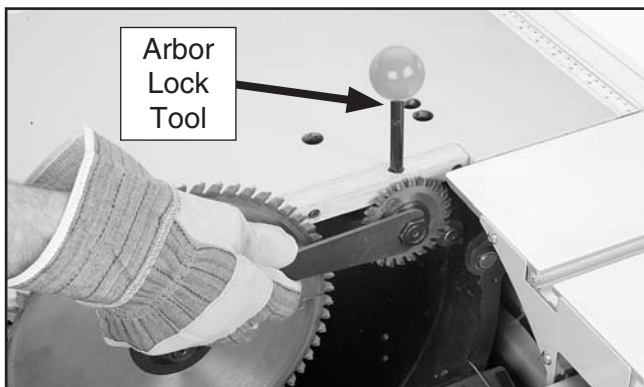

Figure 23. Installing scoring blade.
18. Insert the arbor lock tool into the hole shown in **Figure 23**, rotate the arbor until the lock tool seats, then install the scoring blade per the instructions on **Page 36**.